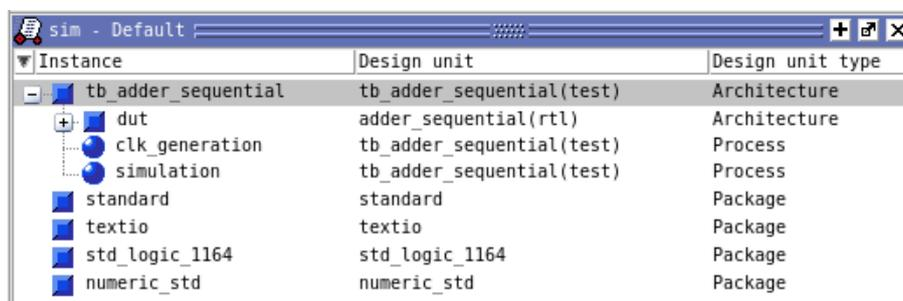

Figure 17: Simulation tab
4. In the sim tab, click on tb\_adder\_sequential (Figure 17).